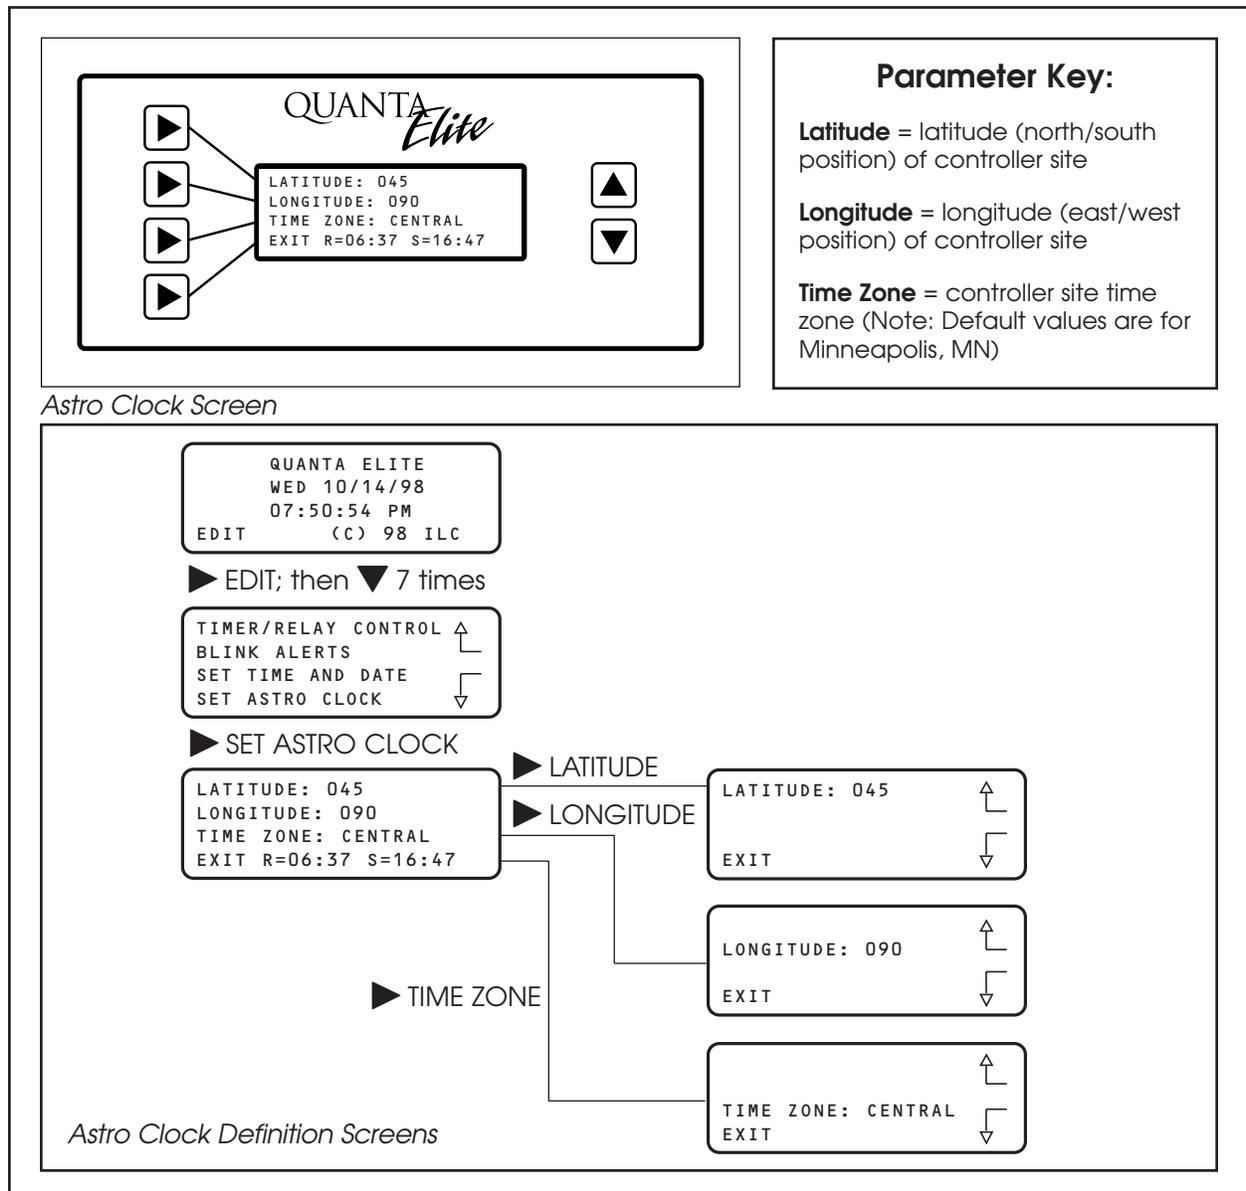

Figure 3.12
2. Press ► SET ASTRO CLOCK to access the Astro Clock screen. (See Figure 3.12.)